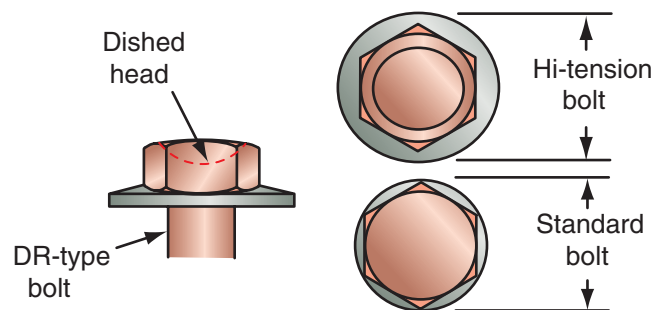

Figure 4-8 A deep recess (DR)-type bolt. Copyright by American Honda Motor Co., Inc. and reprinted with permission.
Deep-recess (DR)-type bolts without strength markings (flange bolts with hex-heads and weight reduction recess in them) are classified by outer flange diameters (Figure 4-8). Their outer flange diameters are larger than those of standard bolts with a flanged head. Install these bolts in the correct location with the correct torque.